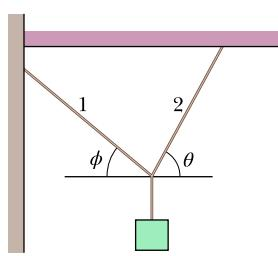

Figure 12.55 Problem 60.
**60** In Fig. 12.55, a package of mass  $m$  hangs from a short cord that is tied to the wall via cord 1 and to the ceiling via cord 2. Cord 1 is at angle  $\phi = 40^\circ$  with the horizontal; cord 2 is at angle  $\theta$ . (a) For what value of  $\theta$  is the tension in cord 2 minimized? (b) In terms of  $mg$ , what is the minimum tension in cord 2?